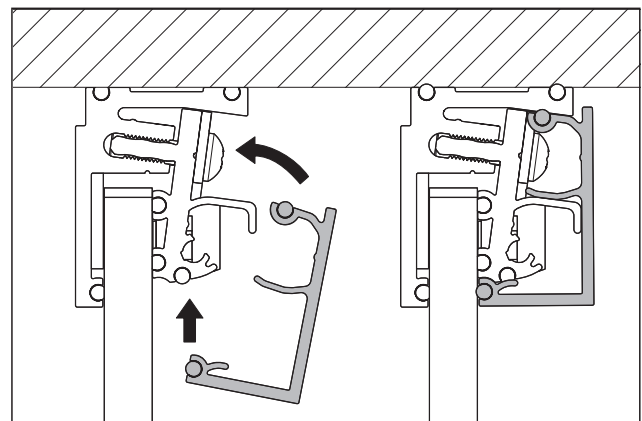

Fig. 11 Attaching the cover profiles
12. Attach the cover profiles (Fig. 11).